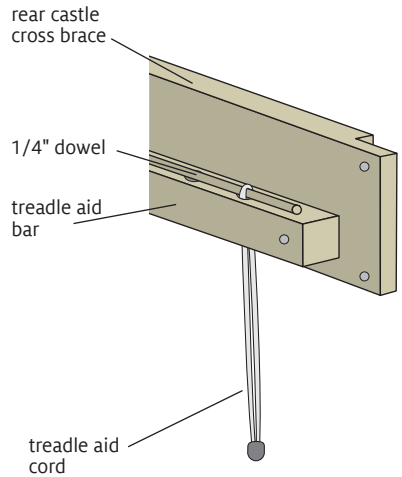

FIGURE 5 - SIDE VIEW OF TREADLE-AID
5. Starting at one end of the treadle aid bar, push a treadle aid cord up through one of the holes (an opened paper clip can be most helpful with this step) and then over the 1/4" dowel. Continue across the entire treadle aid bar. Attach the treadle aid cords to the ends of the treadles in the same manner as you attached the tie-up cords that control the lamms. (Figure 5)